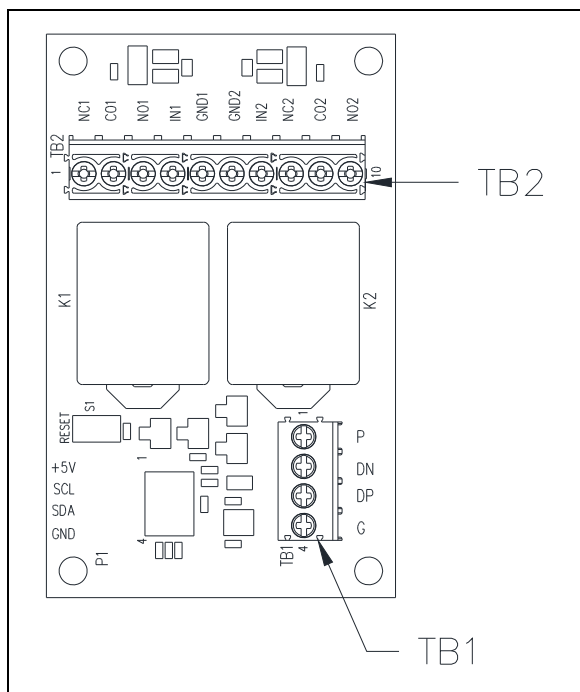

Figure 2. USB I/O Expander PCBA
7. Terminate all wires to terminal blocks TB1 and TB2 (see Figure 2, Table 1, and Table 2).